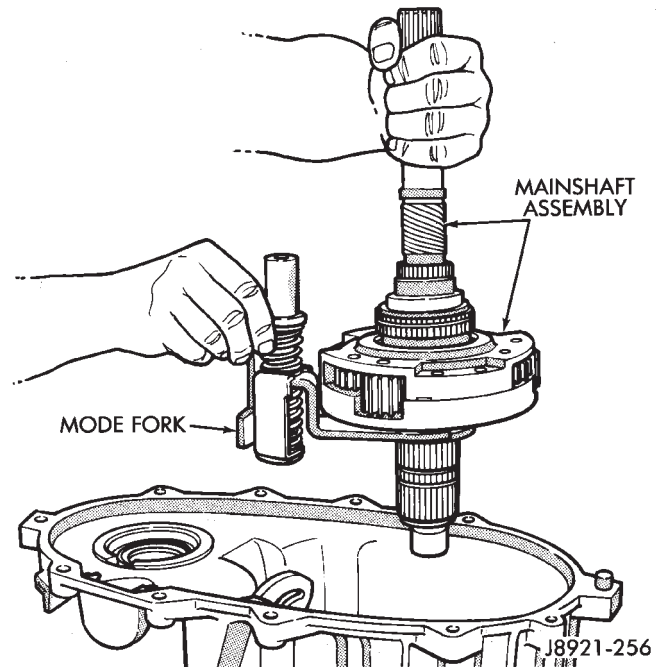

Fig. 16 Mode Fork And Mainshaft Removal
(27) Remove mode fork and mainshaft as assembly (Fig. 16).